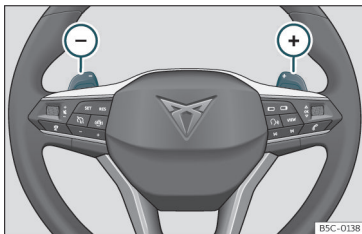

Fig. 146 Steering wheel: automatic transmission levers
- Press the gearshift paddle (+) to select a higher gear»» **Fig. 146**.